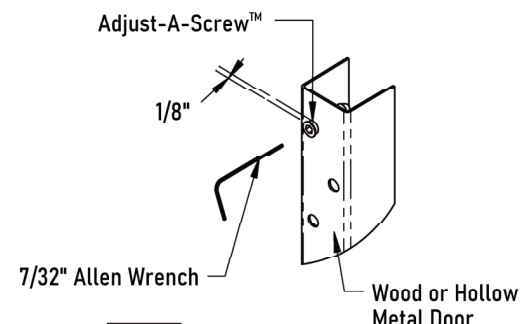

Fig. 4
3. Place a 7/32" Allen wrench in opening of Adjust-A-Screw and turn Adjust-A-Screw into hole while keeping screw properly aligned (Fig. 4).
4. Place a 7/32" Allen wrench in opening of Adjust-A-Screw and turn Adjust-A-Screw into hole while keeping screw properly aligned (Fig. 4).